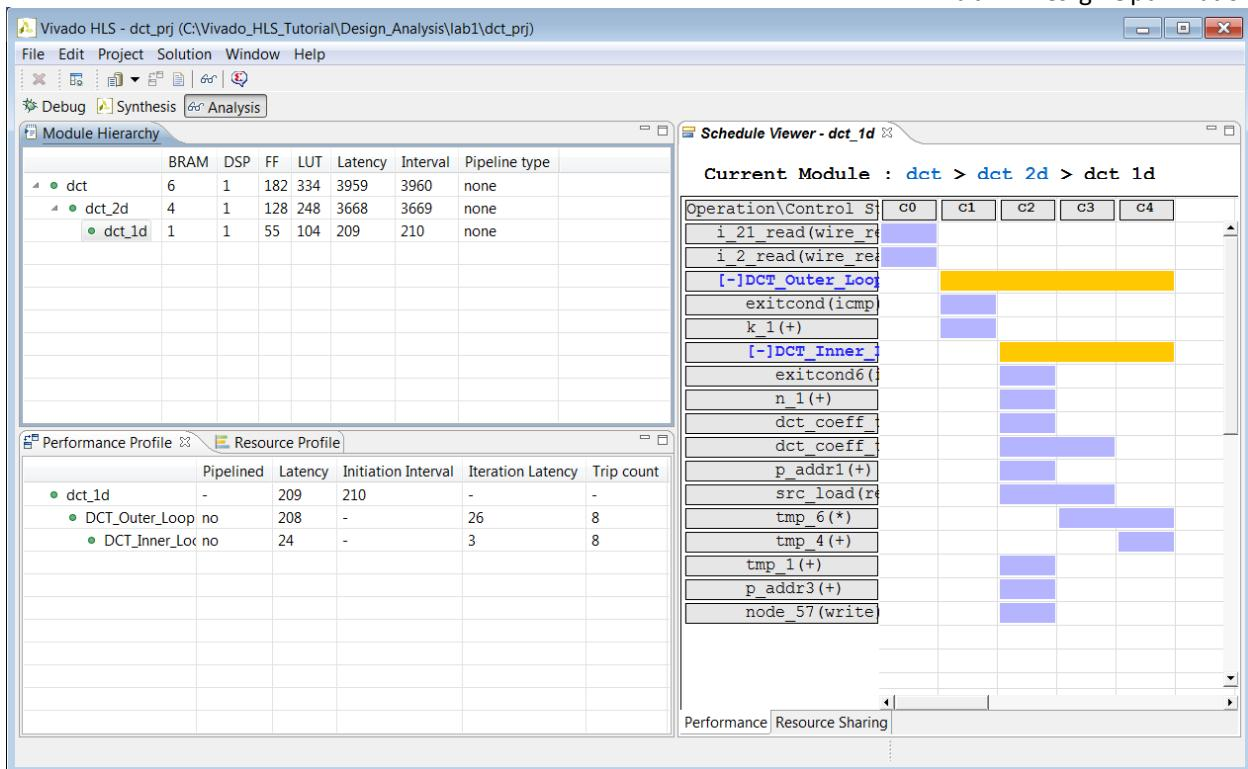

Figure 118 DCT_1D Performance View
7. Click on loops Row_DCT_Loop and Col_DCT_Loop in the performance viewer to fully expand them and see the view in Figure 118.
9. Expand the loops in the Performance Profile and Performance view to see the view shown in Figure 118.
In Figure 118 you can see a series of nested loops which can be pipelined.